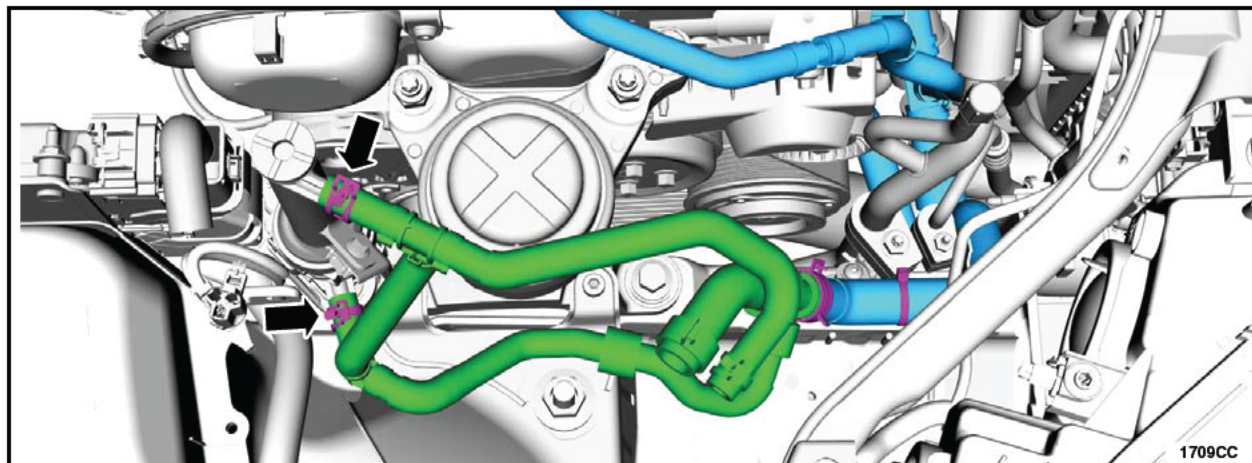

FIGURE J4
4. Connect the *new* coolant hoses to the *new* coolant stand-pipe. See Figure J4.